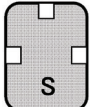

Figure 2.
- GUIDOR Matrix Barrier is packaged in the plastic tray with the external layer facing the opening lid. As shown in Figure 2, the external layer is marked with an “S” and multiple 2 mm square notches along the edge of the Matrix Barrier.